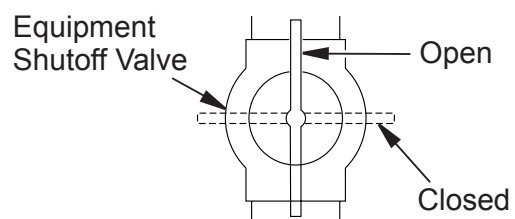

Figure 22 - Equipment Shutoff Valve
1. Close equipment shutoff valve (see Figure 22).
1. Open equipment shutoff valve (see Figure 22, page 14).
6. Close equipment shutoff valve (see Figure 22, page 14).